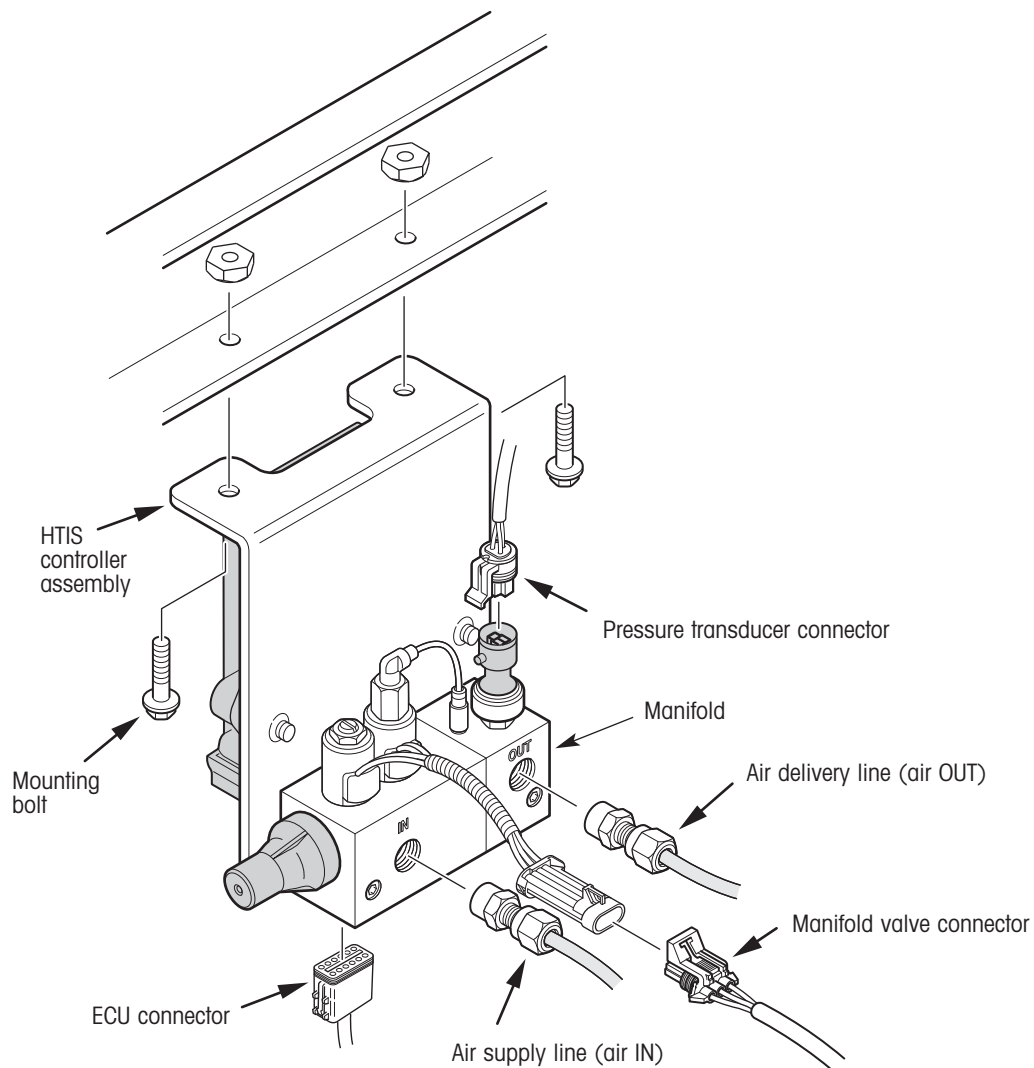

Figure 1. Removing an existing HTIS controller assembly
2. Disconnect the pressure transducer connector (figure 1).